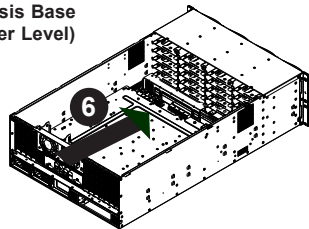

Figure 4-28: Pulling the Power Distributor Board Bracket Forward
11. Restore the power distributor board connection by plugging three pairs of 4-pin backplane connector cables from the front of the power distributor board bracket as described in figure 4-28. Plug the 24-pin and 8-pin motherboard connector cables to the HDD backplane from the side of the power distributor board bracket to the motherboard at the upper level and leave the 4-pin connector aside for peripheral drawer use.